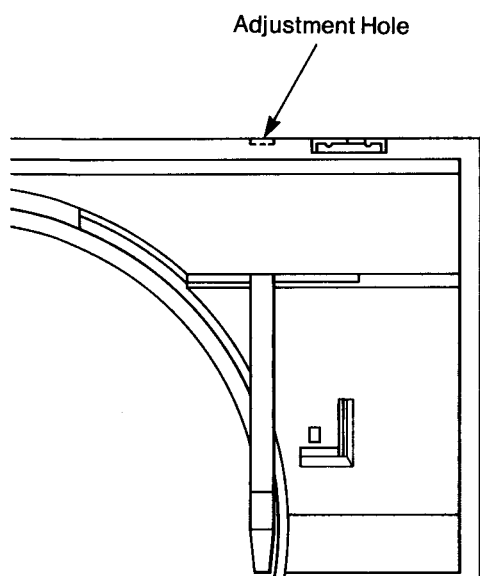

Fig. 1
3. Push $\triangleleft$ button on the control panel and move the arm to the place as illustrated in Fig. 1.